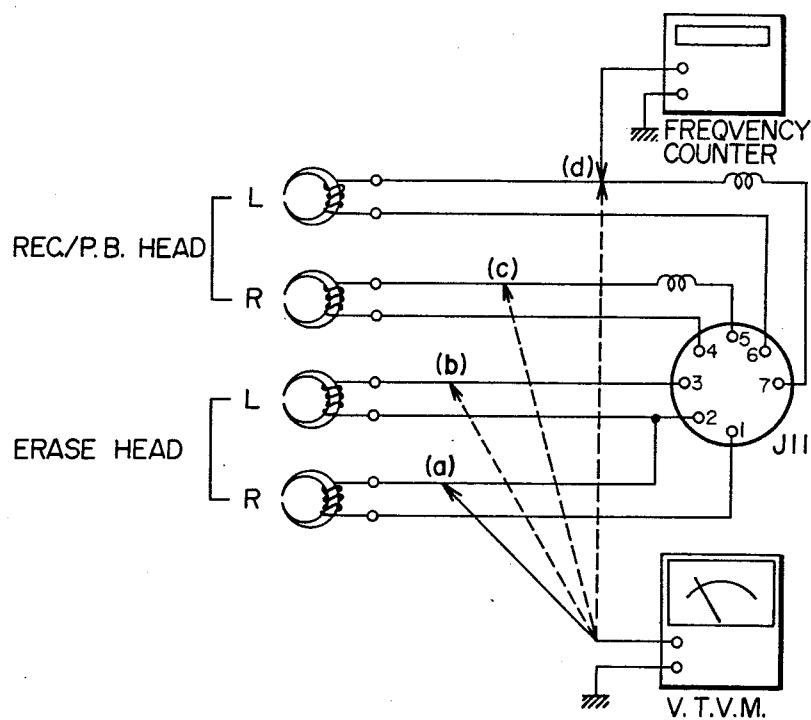

Fig. 12
- Connect a frequency counter to point (d) in Fig. 12 of the recording head and read the frequency indication.
## 2. RECORDING BIAS VOLTAGE (See Fig. 12)
### 3. ERASE BIAS VOLTAGE (See Fig. 12)